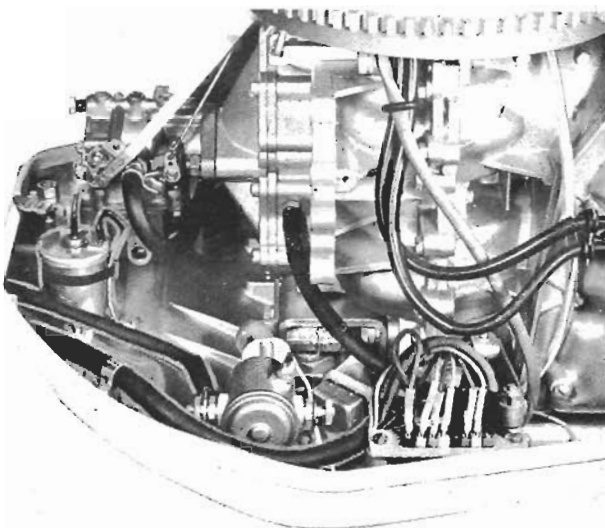

FIGURE 3
4. Route the green choke lead wire down the side of the choke solenoid and install rubber retaining band around choke lead wire and choke solenoid. Be sure to allow a loop to form between the rubber retaining band and the connection point of the lead wire and the choke solenoid. SEE FIG. 3.
5. Install the choke solenoid plunger cable through the hole in the choke arm on the carburetor. With the plunger bottomed in the solenoid, move the choke shutter and arm assembly down on the plunger cable until the choke shutter in the carburetor is from .010 to .040 from being closed. Tighten cable locking screw on the carburetor choke arm. SEE FIG. 3.
1. Assemble one (1) spade terminal to the small terminal post on top of the starter relay. Position terminal so that blade points to center of engine as shown in FIG. 3.
7. One lead of the interlock switch cable is connected to the terminal on top of the starter relay, as shown in Fig. 3.
8. The jumper lead wire is connected to the remaining lead wire of the interlock switch cable and is insulated with one (1) black sleeve furnished with kit.
6. Assemble the terminal connector plate assembly to the support plate as shown in Fig. 3, using two (2) spacers between the terminal connector plate and support plate and two (2) 10-24 x 1/2" fillister head screws furnished with kit.
3. Assemble black battery cable lead to the forward terminal of the starter relay, as shown in Fig. 3.
4. Assemble the red battery cable lead wire to the support plate using one (1) 1/4-20 x 1/2" nylok hex slotted head screw w/type "A" external tooth lock-washer.
2. Connect the electric cable lead wires to the terminal connector plate by matching the colors of the remote electric cable lead wire ends with the colors of the plastic connectors in the terminal connector plate, as shown in Fig. 3.
3. Assemble one (1) cable clamp and one (1) 10-24 x 1/2" fillister head screw to remote electric cable and secure to support plate as shown in Fig. 3.